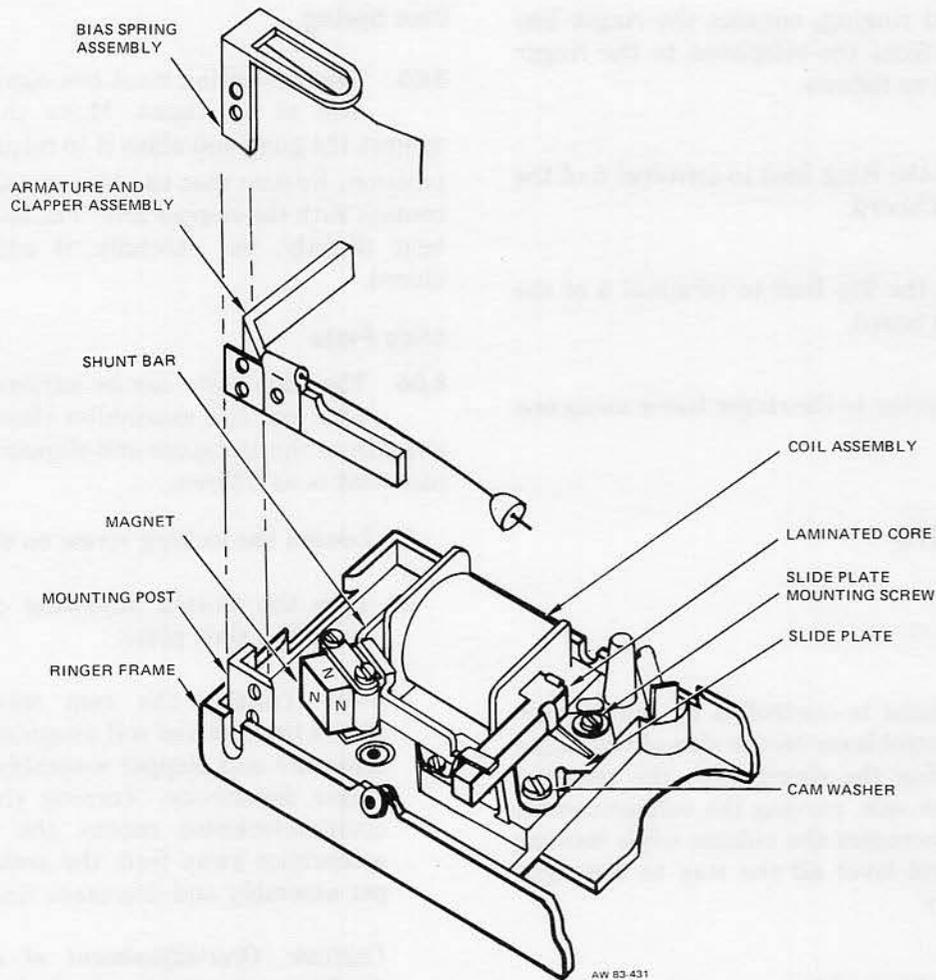

Figure 3: Model 147 Ringer Component Locations
6.01 To assemble the ringer, proceed as follows (see Figure 3):